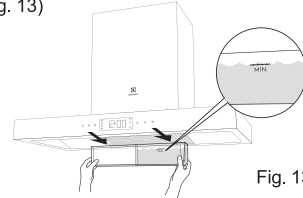

Fig. 13
3. Install water container to the range hood. (Fig. 13)